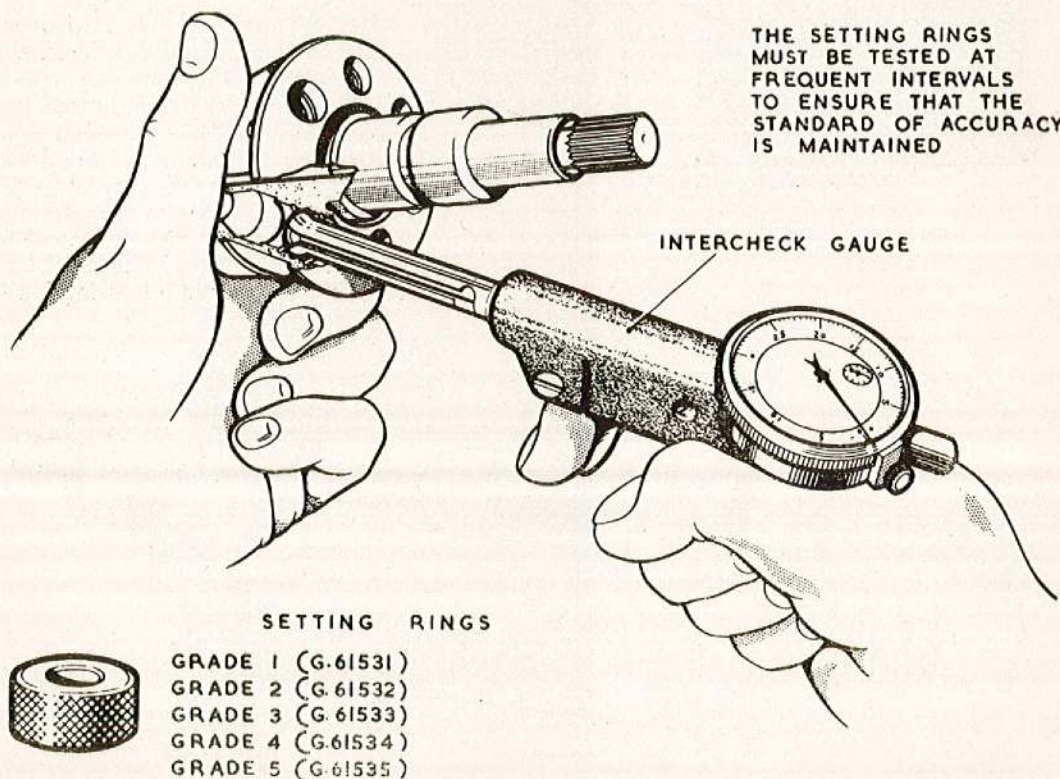

Fig. 14. Checking the rotor bores
61. Examine the rotor bores for freedom from scores, wear of the plating and for cleanliness of the oil relief grooves. Check the diameter of the bores in four positions by using a bore gauge and setting rings (*fig. 14*). The maximum worn clearance allowed between any one piston and bore is specified in Vol. 2, Part 2. The bores of the setting rings are identical in diameter to the bores of a new rotor; five sizes being available for the five different sizes of rotor bore. The gauge is set to zero in the bore of the setting ring and is then inserted in the rotor. The reading obtained indicates the amount of wear in the rotor bore.